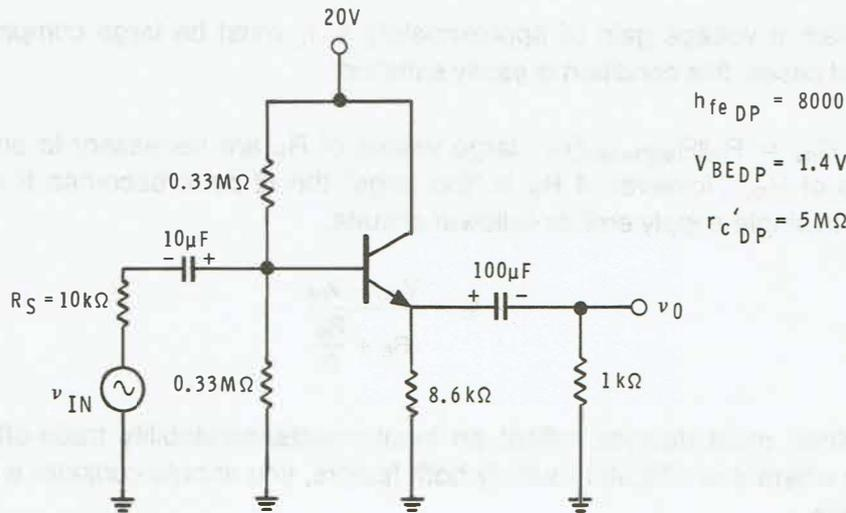

Figure 4-24
2. The single-transistor equivalent is illustrated in Figure 4-24. Here, R_{IN} is calculated in this way: